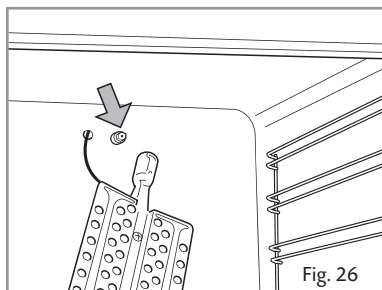
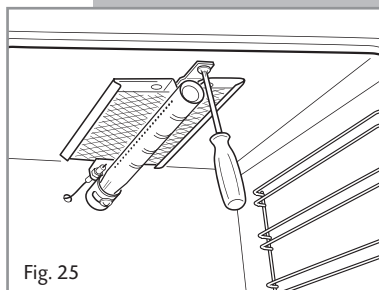

Fig. 26
Fig. 25
- Remove the burner by unscrewing the front screw (fig. 25). Gently suspend the burner as shown in figure 26. Be careful not to damage the wire of the electric ignition and the probe of the safety valve.
- Using a 7 mm box spanner, replace the injector (indicated by the arrow in fig. 26).